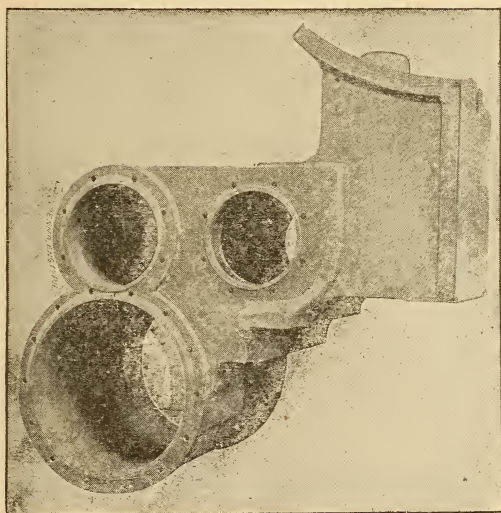
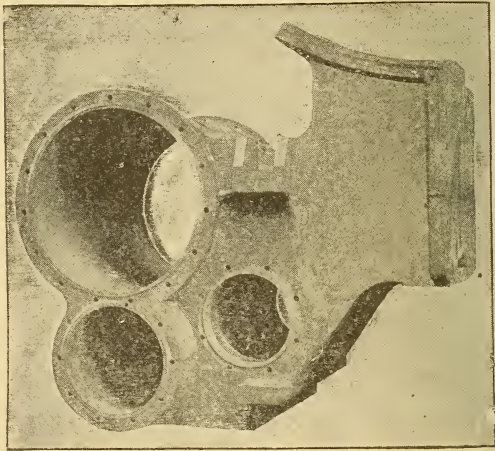

Fig. 56. Cylinders, Valve Chest and Half-saddle, Vaucain Eight-wheeled Compound.
Fig. 57. Cylinders, Valve Chest and Half-saddle, Vauclain Consolidation Compound.
A. Two on each side, one above the other; where the conditions will permit the high-pressure cylinder being put on top as is shown in figure 56, but where the wheels are low, as with consolidation engines, the low-pressure cylinder is above as shown in figure 57.